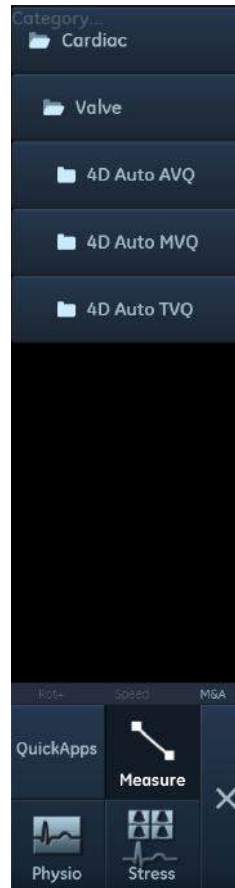

Figure 8-52. Selecting the 4D Auto MVQ tool.
3. Select **Valve/4D Auto MVQ** (Figure 8-52)